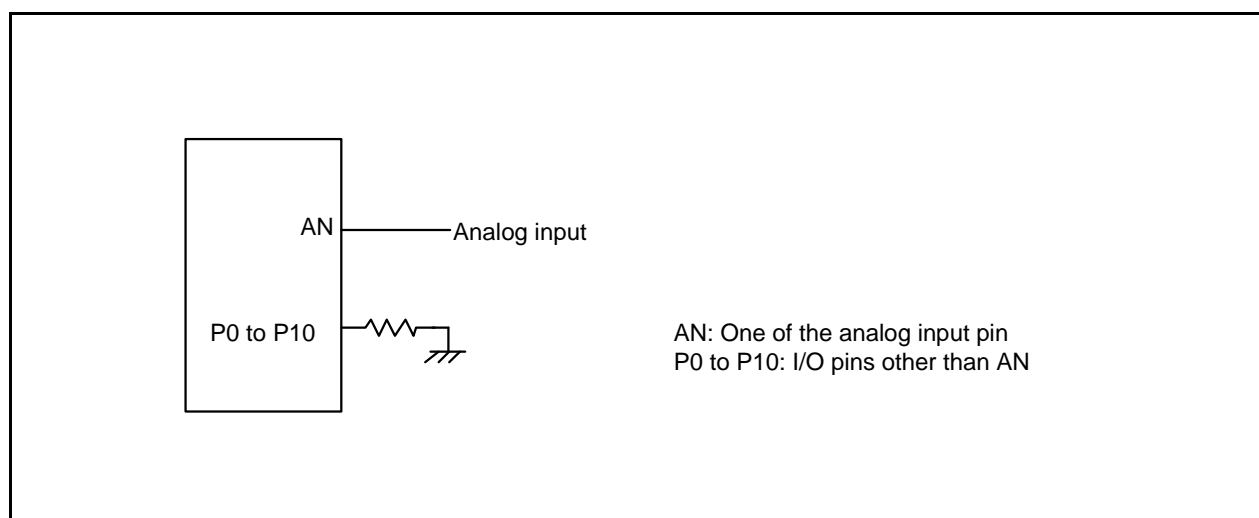

Figure 5.3 A/D Accuracy Measure Circuit
2. Flash memory rewrite disabled. Except for the analog input pin, set the pins to be measured as input ports and connect them to V_{SS} . See Figure 5.3 "A/D Accuracy Measure Circuit".